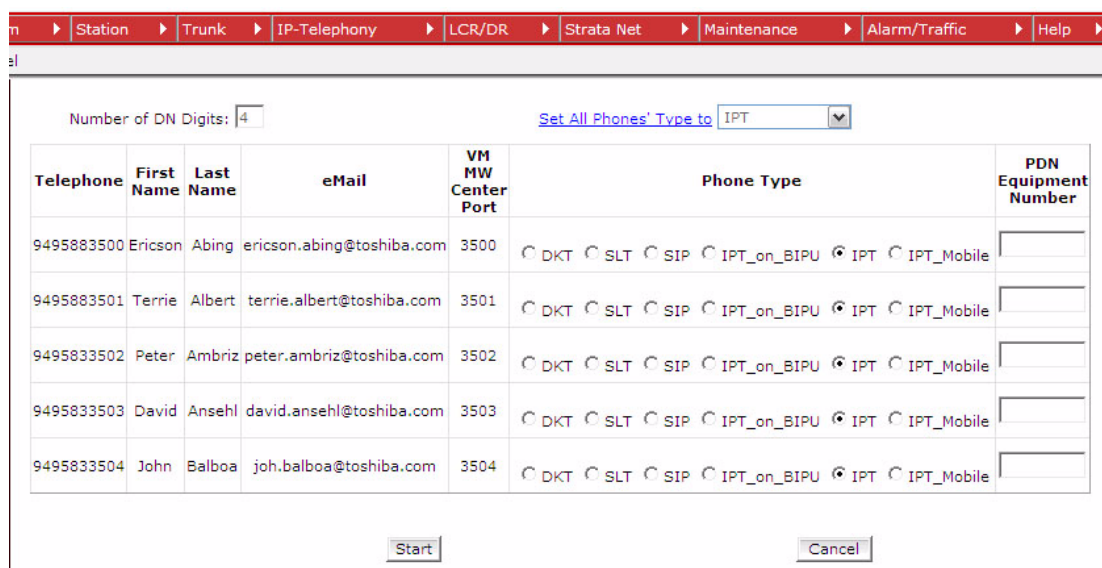

Figure 2-8. Number of DN Digits
- From the initial install screen as shown in Figure 2-8, the “Number of DN Digits” specifies how many digits from far right to left should be counted as the extension number. Notice, for example, the user Ericson Abing in Figure 2-8. The telephone number listed is 9495833500. Since the “Number of DN Digits” is set to 4, Network eManager will use the last four numbers as the extension number, in this example, 3500.